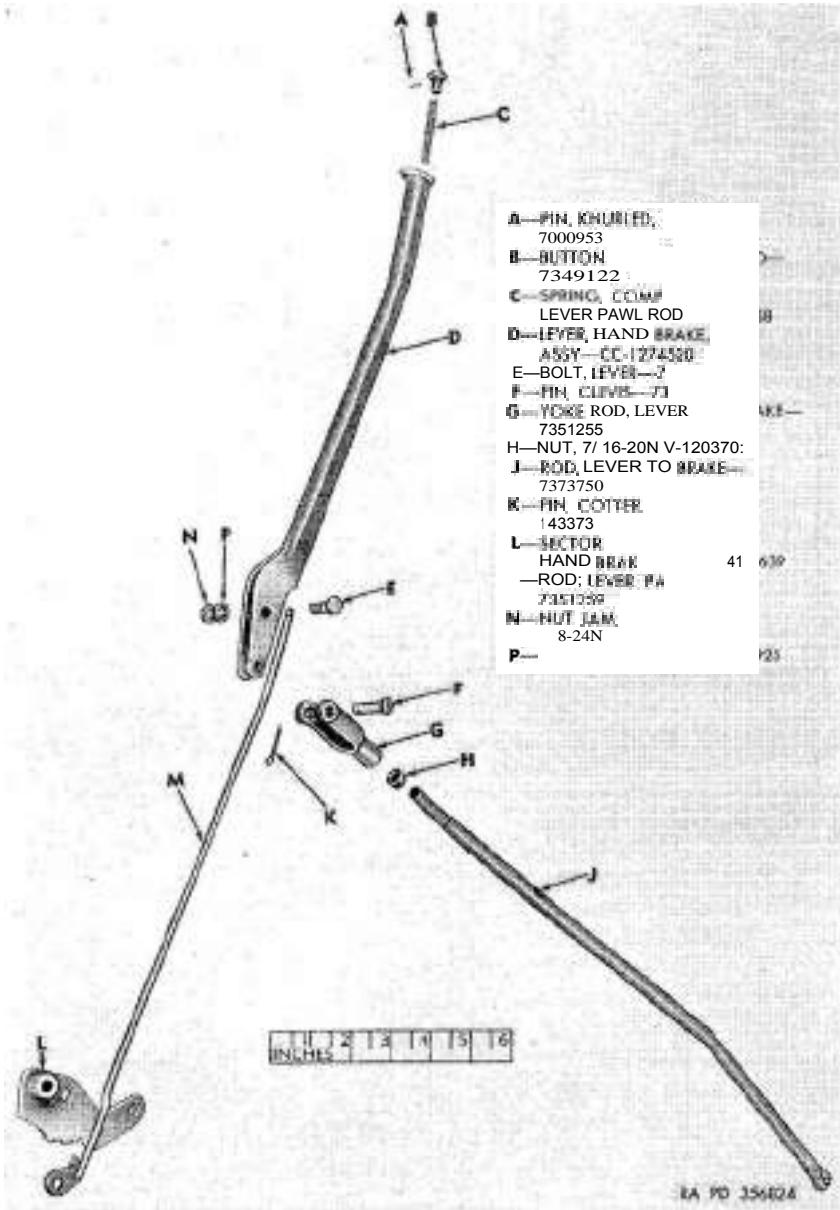

Figure 148. Hand brake lever and rod—exploded view.
b. Remove Parts from Hand Brake Lever (fig. 148).
- (1) Remove 3/32 x 3/4 cotter pin (K) from clevis pin (F) ; then remove clevis pin from lever-to-brake rod yoke (G) and hand brake lever assembly (D). This will release the rod and yoke from lever. Remove lever-to-brake rod yoke (G) and 7/16-20NF nut (H) from lever-to-brake rod (J).
- (2) Remove $\frac{3}{16}$ -24NF stamped-jam nut (N) and %-24NF jam nut (P) from lever bolt (E). Remove lever bolt from hand brake lever assembly (D). This will release the hand brake lever sector (L).
- (3) Push lever pawl rod assembly (M) up through lever to expose lever pawl rod button (B) and button knurled pin (A). When knurled pin is visible above lever, drive pin from button with a small drift. Remove button and lever pawl rod compression spring (C) from lever pawl assembly rod (M).
a. Inspect Hand Brake Lever and Related Parts (fig. 148).
- (1) Inspect hand brake lever assembly (D) for damage, cracks, distortion, or worn bolt holes or clevis pin holes. If any of these conditions exist, hand brake lever must be replaced.
- (2) Inspect lever pawl rod compression spring (C) for damage or breakage. If there is evidence of damage or breakage, replace spring.
- (3) Inspect lever pawl rod button (B), button knurled pin (A), lever bolt (E), and clevis pin (F) for wear or damage. If either of these conditions are evident, the parts affected must be replaced.
- (4) Inspect lever pawl rod assembly (M) for cracks, distortion, or worn pawl. If any of these conditions exist, lever pawl rod assembly must be replaced.
- (5) Inspect hand brake lever sector (L) for worn sector teeth, bolt holes, or clevis pin holes ; cracks ; or distortion. If any of these conditions exist, sector must be replaced.
b. Inspect Lever-to-Brake Rod, Lever-to-Brake Rod Yoke, and Nut (fig. 148).
- (1) Inspect lever-to-brake rod (J) for wear, cracks, or damaged threads. If any of these conditions exist, rod must be replaced.
- (2) Inspect lever-to-brake rod yoke (G) and $7/16\text{-}20\text{NF}$ nut (H) for worn threads, damaged threads, cracks, or worn clevis pin holes. If any of these conditions exist, yoke or nut must be replaced.
b. Assemble Hand Brake Lever (fig. 148).
- (1) Insert lever pawl rod assembly (M) in hand brake lever assembly (D). Position lever pawl rod compression spring (C) and lever pawl rod button (B) on upper end of pawl rod. Aline hole in button with hole in pawl rod and install button knurled pin (A).
- (2) Position hand brake lever sector (L) in hand brake lever assembly (D) so that spacer on sector will be on offset side of lever. Install lever bolt (E) and $\frac{3}{8}$ -24NF jam nut (P). Tighten jam nut until sector is just a free fit in lever. Install $\frac{3}{8}$ -24NF stamped jam nut (N) (flange side out) and tighten nut securely against $\frac{3}{8}$ -24NF jam nut (P).
c. Assemble Lever-to-Brake Rod and Lever-to-Brake Rod Yoke and Attach Rod to Hand Brake Lever (fig. 148). Assemble 7/16-20NF nut (H) and lever-to-brake rod yoke (G) on lever-to-brake rod (J). Aline pawl with holes in hand brake lever assembly (D) and attach rod to lever with clevis pin (F). Install new 3/32 x $\frac{3}{4}$ cotter pin (K) in clevis pin.